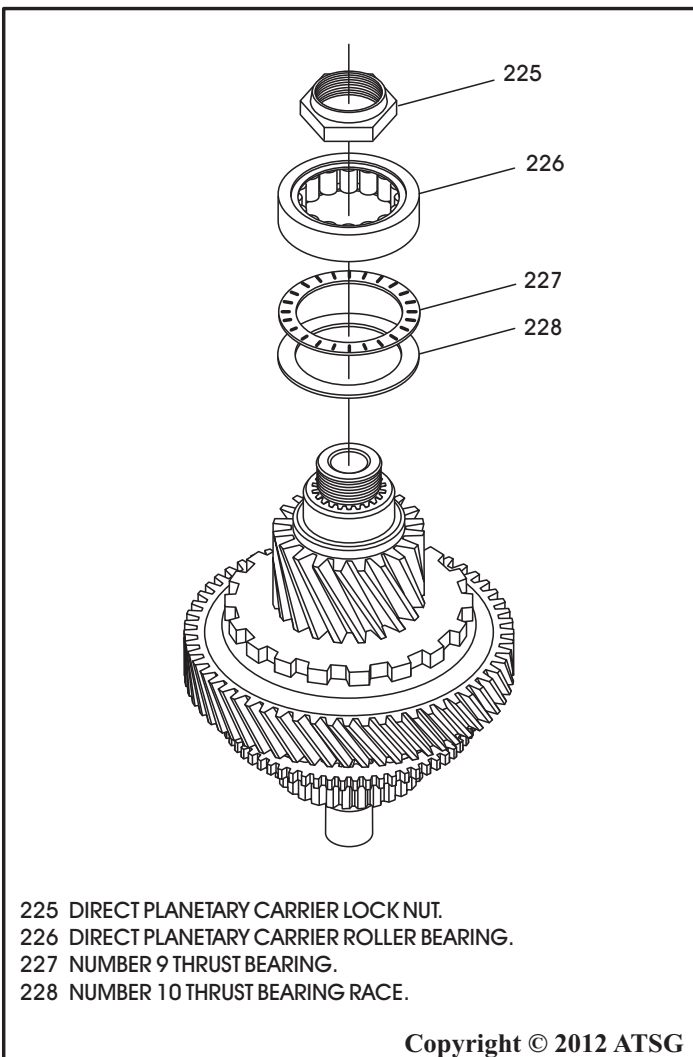

Figure 180
17. Install the number 10 thrust bearing race and the number 9 thrust bearing, as shown in Figure 180.
18. Install the direct planetary carrier roller bearing, as shown in Figure 180.
19. Install the locking nut as shown in Figure 180.